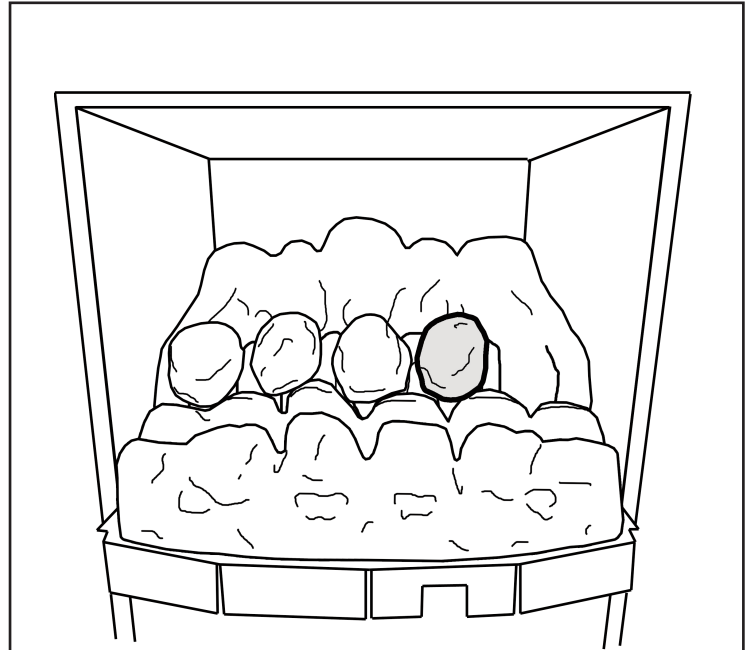

Figure 6. Second row "Coal D"
7. Hold coal 'D' upright with the arrow pointing to the top. Locate coal 'D' as shown in figure 6.